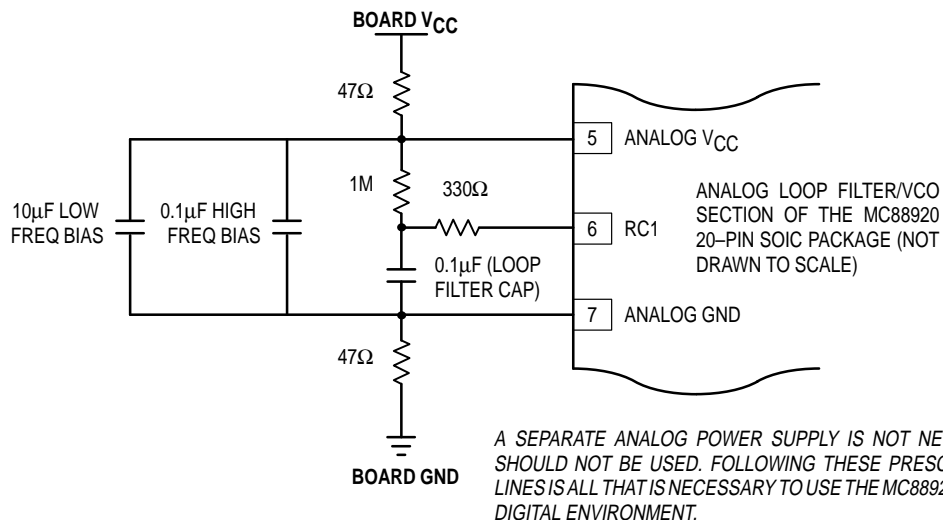

Figure 7. Recommended Loop Filter and Analog Isolation Scheme for the MC88920
- Figure 7 shows a loop filter and analog isolation scheme which will be effective in most applications. The following guidelines should be followed to ensure stable and jitter-free operation:
- purpose of the bypass filtering scheme shown in Figure 7 is to give the 88920 additional protection from the power supply and ground plane transients that can occur in a high frequency, high speed digital system.
- In addition to the bypass capacitors used in the analog filter of Figure 7, there should be a 0.1 $\mu$ F bypass capacitor between each of the other (digital) four  $V_{CC}$  pins and the board ground plane. This will reduce output switching noise caused by the 88920 outputs, in addition to reducing potential for noise in the 'analog' section of the chip. These bypass capacitors should also be tied as close to the 88920 package as possible.